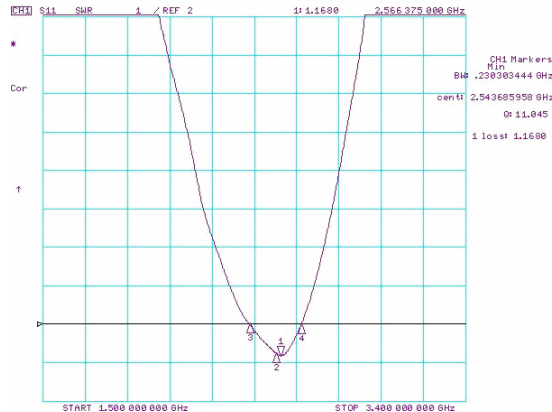

Fig. 3-1
- Electrical Performance: See Fig. 3-1